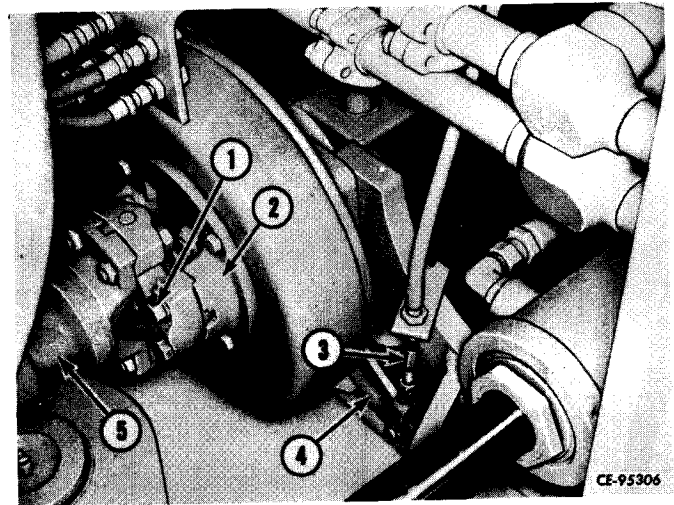

Figure 5-18
Remove the cap screws (1, Fig. 5-18) that secure the drive shafts (5) to the transfer drive yokes (2). Remove the drive shafts from the yokes.